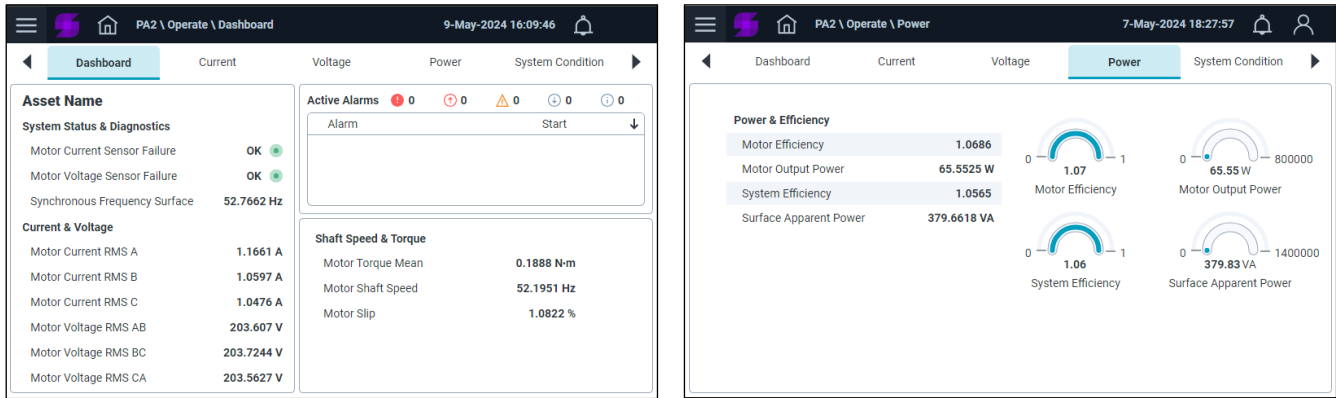
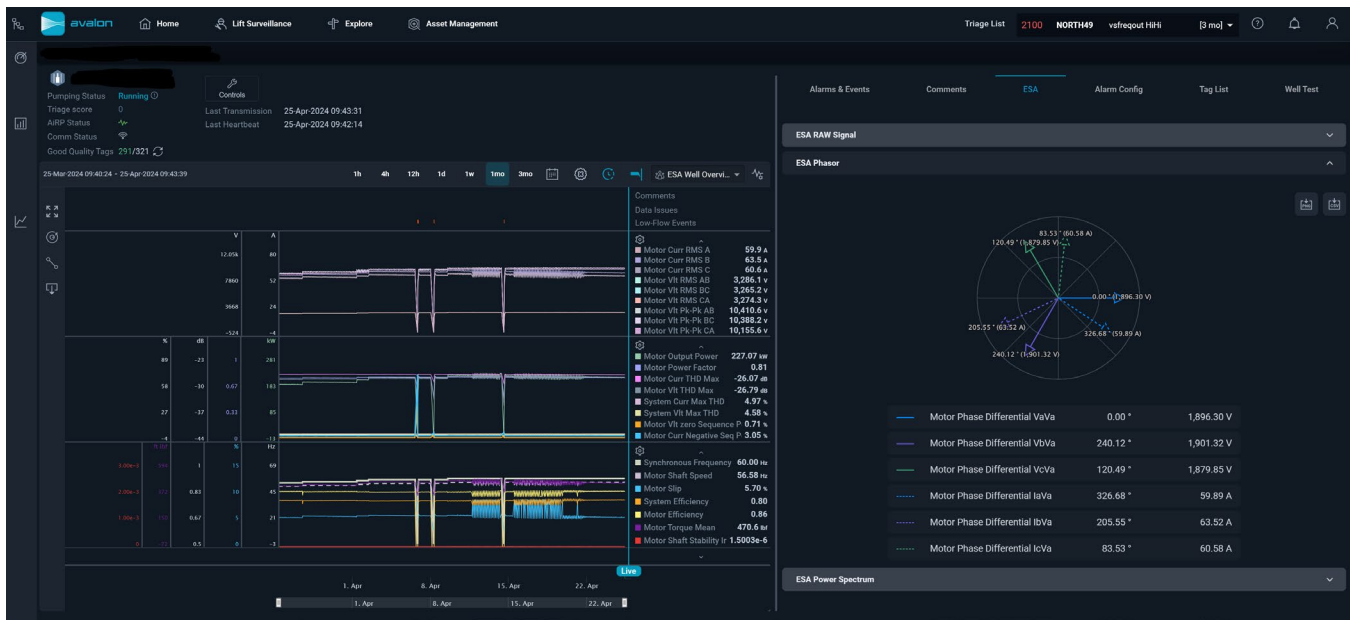

Figure 1.2—Local HMI display
Figure 1.3—Data can be monitored remotely in Sensia’s Avalon interface via tabular displays and customizable trends and charts
The PA2 displays measured and calculated data in the HCC2 Unity Edge interface, on a local HMI display (Figure 1.2), in a cloud-based Avalon software environment (Figure 1.3), or in a customer SCADA system1 to support continuous field monitoring and analysis.
**Note** Power Analyzer functionality is presented with “ESA” labels in Figure 1.3. These labels will be updated to reflect the Power Analyzer name in the next release of Avalon software.